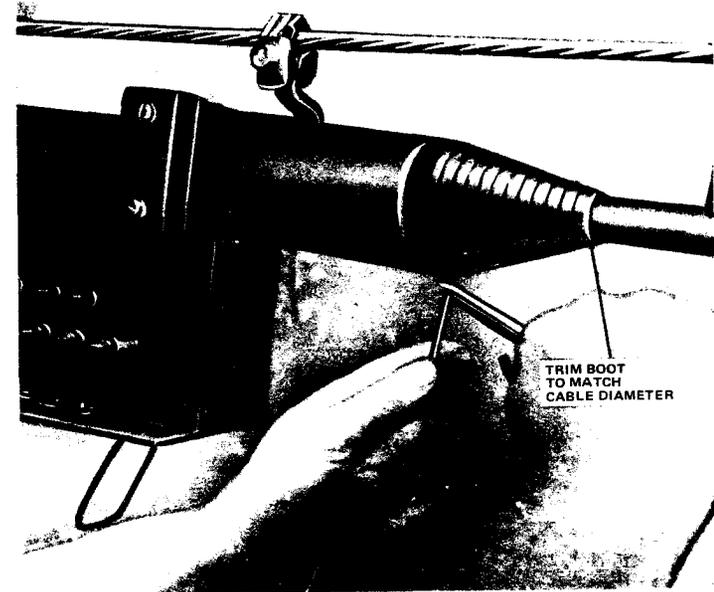

Fig. 18—Placing Cable Boots
4.07 Measure the cable diameter and cut the end of the boots to fit the cable. Leave the corresponding diameter mark on the boot (Fig. 18). Place the cable and splice in the chamber behind the terminal panel partition if it was positioned in front (paragraph 4.02).
Position the boots over the cable making sure the slits are aligned and closed. Place, tighten, and trim the cable ties (three on flat part and one on tapered part of each boot) (Fig. 18).